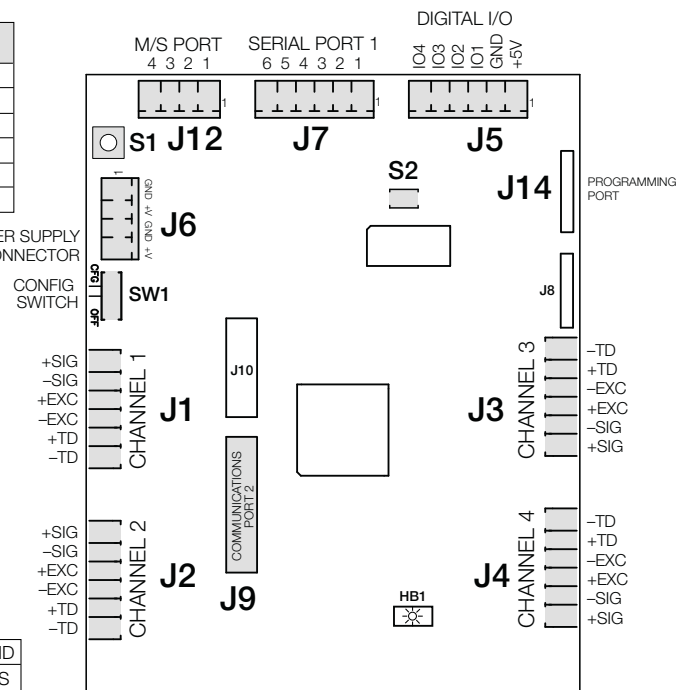

Figure 2-4. CPU Board
NOTE: J1 - J4 have connectors in place and are field wired as needed. Connections J6 and J7 have connectors in place and require wiring during install. Use Figure 2-4 to confirm connections. This graphic matches Label PN109344, affixed to the inside cover of the iQUBE². For RS-422 connection, see S2 Port in Table 2-7.
4. Carefully align the option card connector with J9 on the CPU board (Figure 2-4 on page 18) and the standoffs.